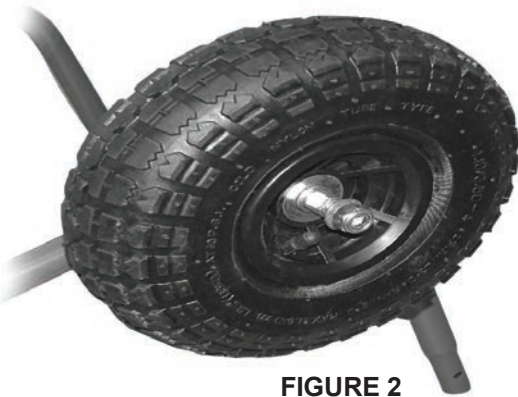

FIGURE 2
2. Place the wheel over the axle with the air valve facing out. Place the axle washer **(P)** over the thread and screw on axle nut **(O)** and tighten securely. Repeat for each remaining wheel. **See Figures 2 & 3**